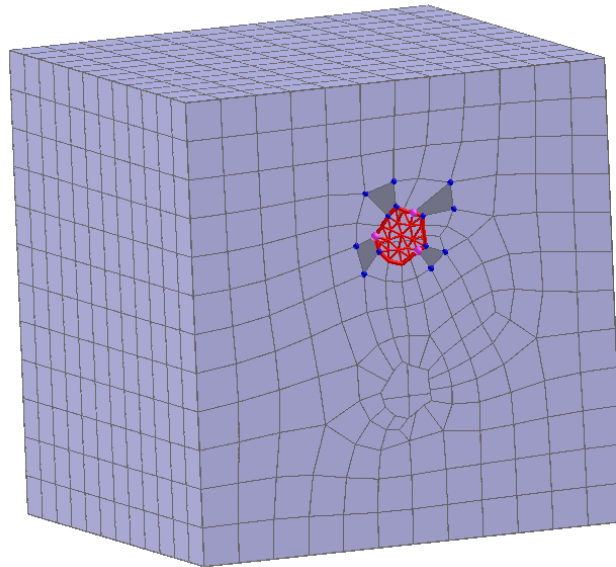

Figure A.39 Fill hole using triangle elements.
- Pick the nodes until a unique closed loop is identified by the appearance of triangle elements filling the hole as shown in Figure A.39.